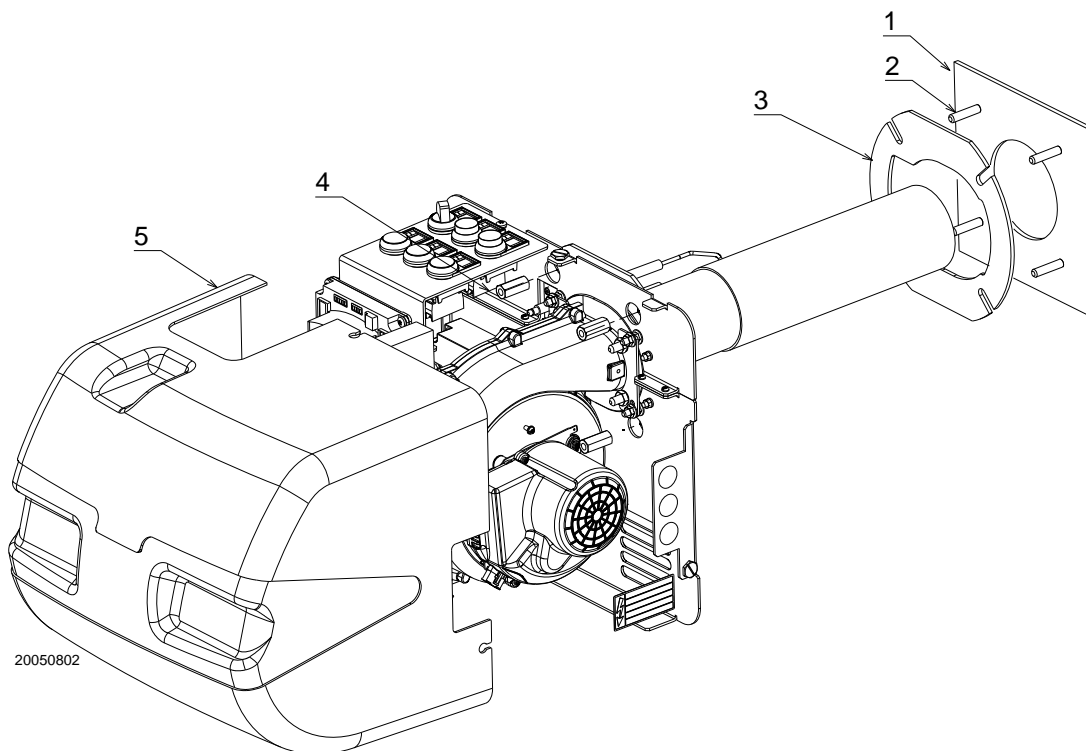

Fig. 11
This protective device must allow the blast tube to be taken out (Fig. 11).
- Screw the studs 2)(Fig. 11) onto the boiler plate 1).